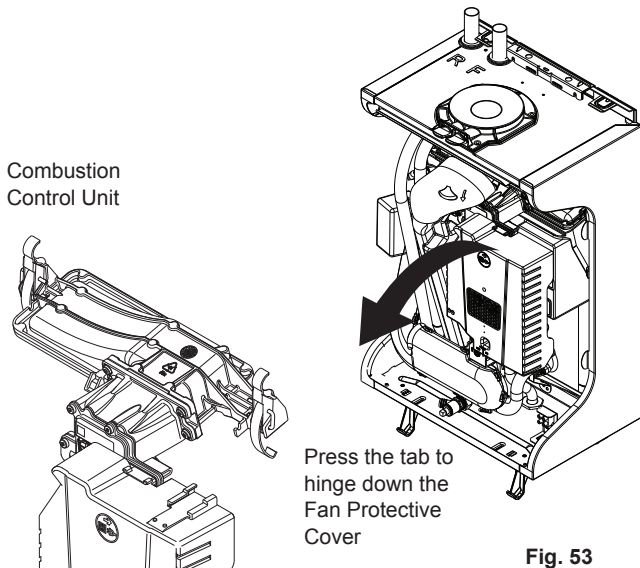

Fig. 53
10.3.11 Combustion Control Unit (Figs. 53 to 57)